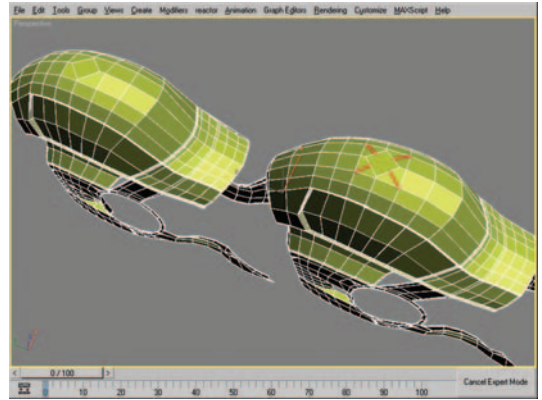

Figure 8.83 Polygon before and after adding new diagonal edges with the Cut tool.
5. Using the Cut tool, create the new diagonal edges seen in Figure 8.83 (right). The new edges should run from the outer corner to the midpoint of the edges of the polygon you just created. When using the Cut tool your cursor will appear differently when you are over a vertex or edge; you want to try to have your cut go from vertex to edge, so pay close attention to the visual feedback the cursor gives you.